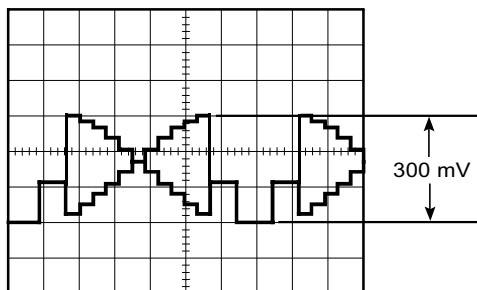

Fig. 4-12
- Set the Lens Iris so that the CDS OUT signal level at the pin 1 of CN2 becomes 300 mV as shown in Fig. 4-12.